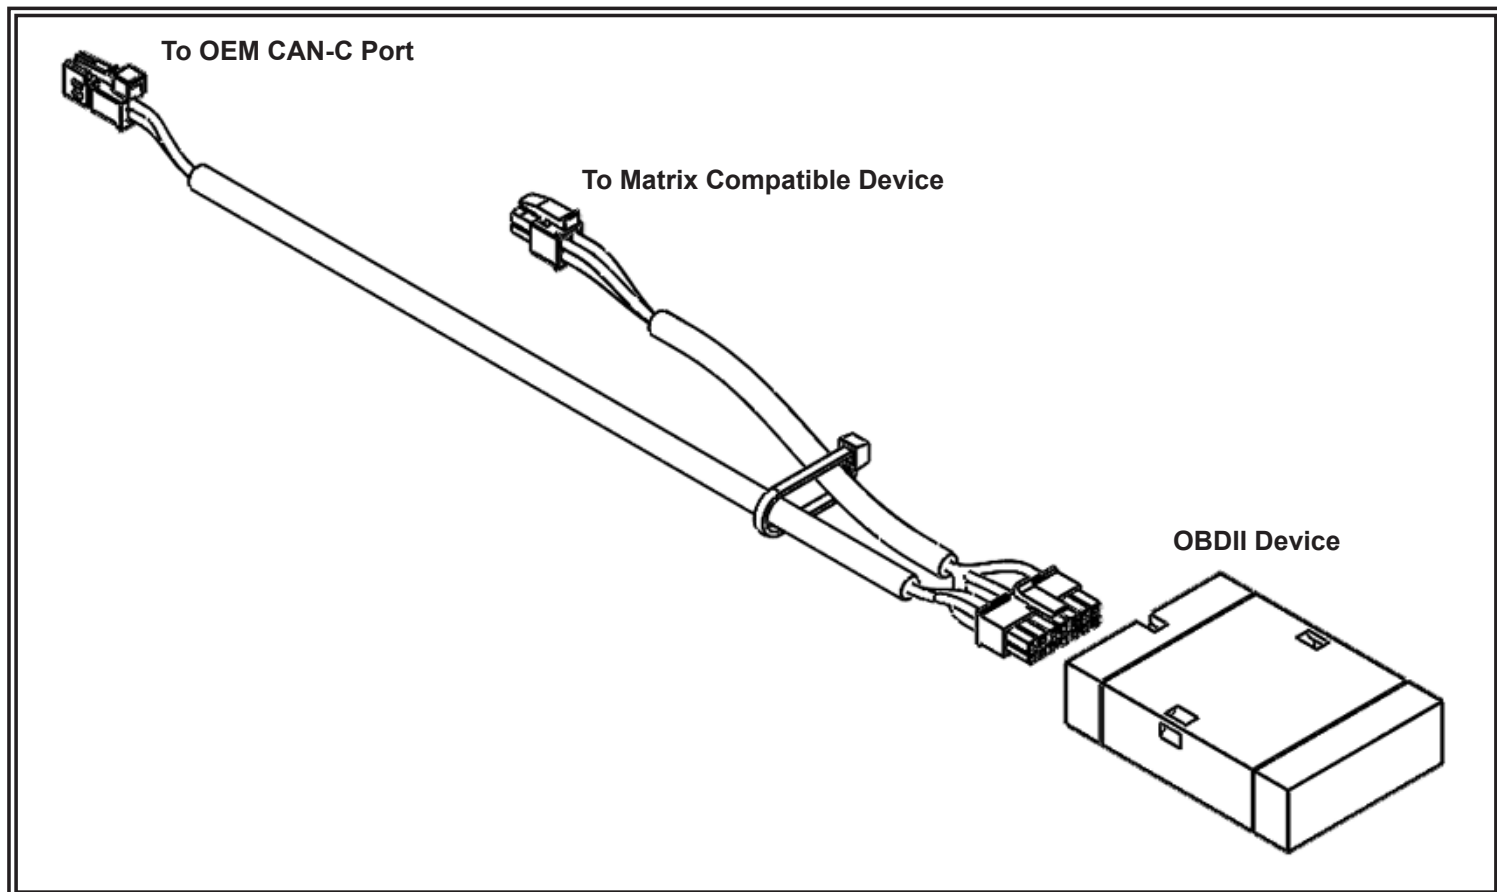

Figure 7
Step 5. Route the remaining, unused OBDII Harness connectors to the location where the OBDII Device will be mounted. The OBDII Device must be mounted near another Matrix® compatible device with a 4 Pin AUX connector. Confirm that the cable length is sufficient to reach both required locations. See FIGURE 7 for further details.